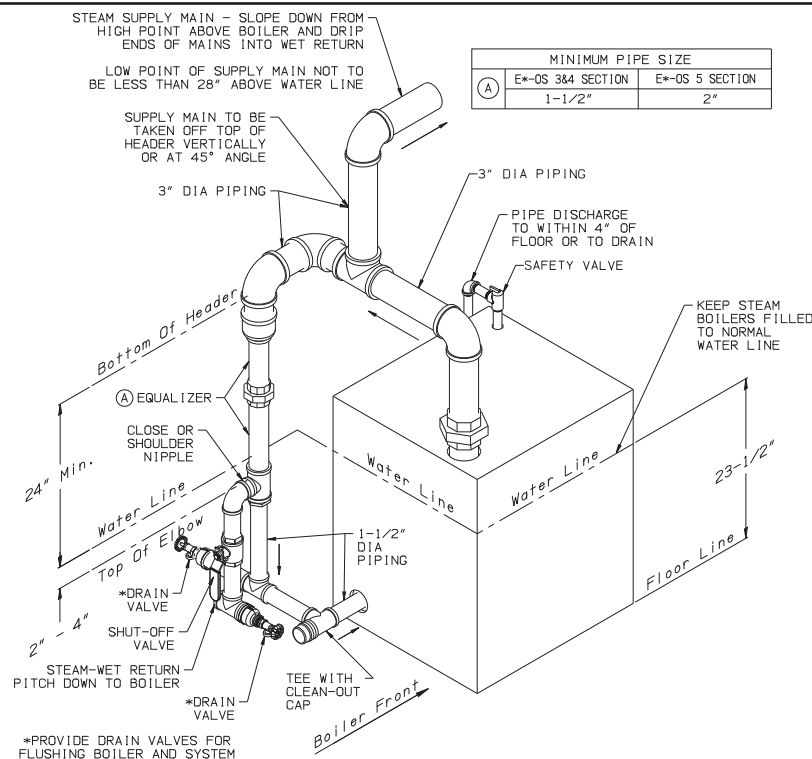

FIGURE 8.0: STEAM BOILER PIPING FOR GRAVITY RETURN
Figure 8.0 shows recommended near boiler Piping for most common types of gravity return steam systems. Additional information on steam system design may be found in the *I=B=R Guide RHH* published by the Air-Conditioning, Heating and Refrigeration Institute (AHRI).
- 5) Connect system supply and return to boiler. See Figure 8.0. All E*-OS boilers use one supply riser and one return tapping.